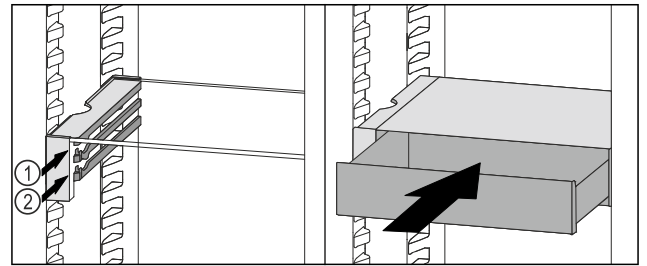

Fig. 99
- ▶ Place the VarioSafe drawer behind the stoppers on desired rib Fig. 99 (1) or Fig. 99 (2).